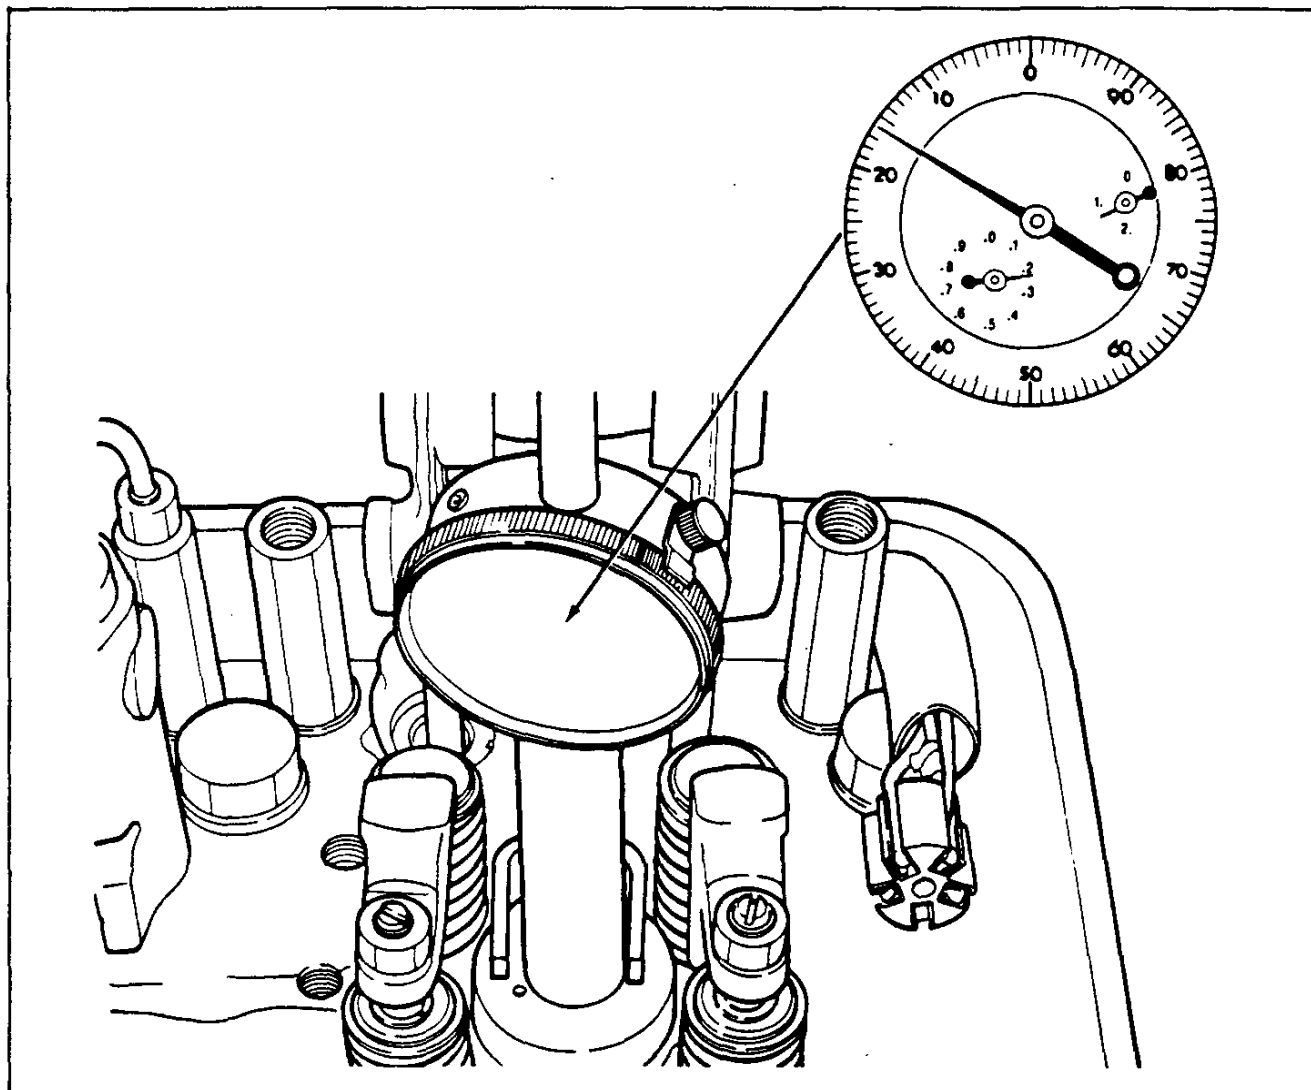

Figure 13
3. Turn the crankshaft slowly, in the direction of rotation, until the dial indicator pointer reads exactly 1.216" of piston travel as shown in Figure 13.